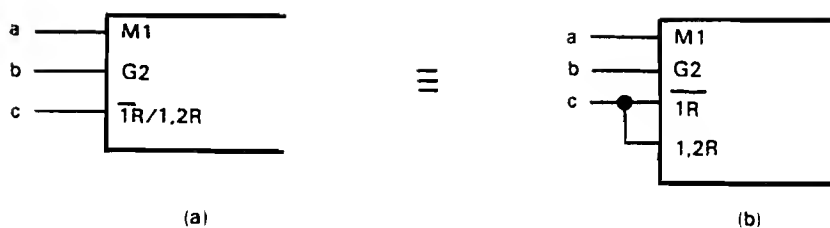

Figure 2. Dependency Notation Layout
2. If an input performs several different functions, each may be described on separate input lines or on the same line with each effect separated by a slanted line (/). Figure 2 illustrates these two formats. In Figure 2(a) input c,
a reset line is active when input a is high or (/) when inputs a and b are high. Figure 2(b) illustrates the same idea, but separates the two conditions showing them as separate inputs rather than combining them.